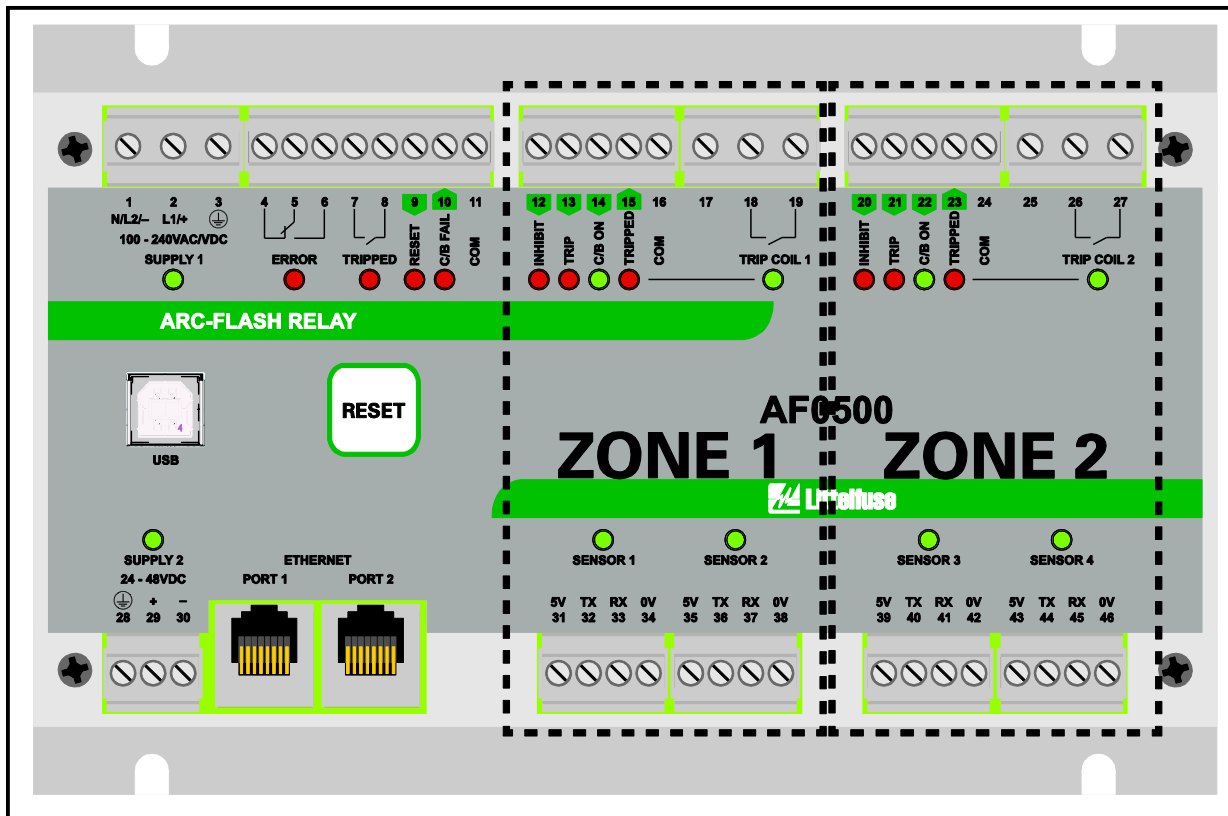

FIGURE 1. AF0500 Default Trip Zones.
The AF0500 design philosophy is to configure one or more zone units to provide arc-flash protection. Each zone unit provides two sensors, one trip coil output, and digital inputs and outputs which make it possible to combine the zone units into larger zones, or to trip an upstream circuit breaker if a local circuit breaker has failed to trip. Each AF0500 provides two zone units, which can be combined freely, with no differences if the zone units are on the same AF0500 or on different physical units. See Fig. 1. The complete configuration and "programming" of the system can be done by simply wiring the inputs and outputs marked with green arrows – no external software is needed.
4. Based on the number of sensors and zones, the necessary number of outputs and sensors can be found. Each AF0500 provides two zones (two circuit breaker outputs) and two sensor inputs per zone, which can be bundled into larger zones by a single wire, and which can combine fiber and point sensors completely as needed. See Fig. 1.